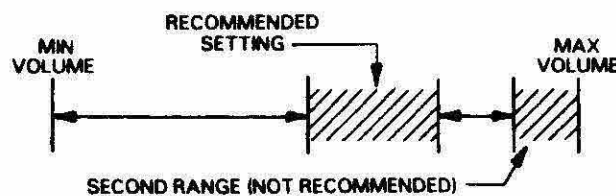

Figure 4-4. Volume Control Range Setting
10. Setting of the volume control is critical for proper operation. The error code displayed for an incorrect (low) volume control setting is E28. Figure 4-4 illustrates the area of the volume control available for a proper setting.